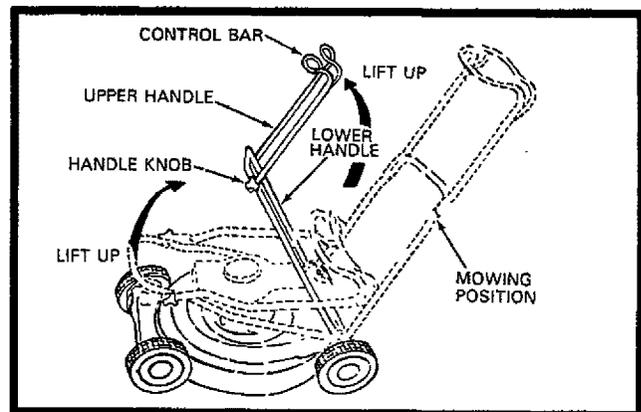

FIG. 1
- Raise lower handle section until it is in the upright storage detents (See Figs. 1 & 2).